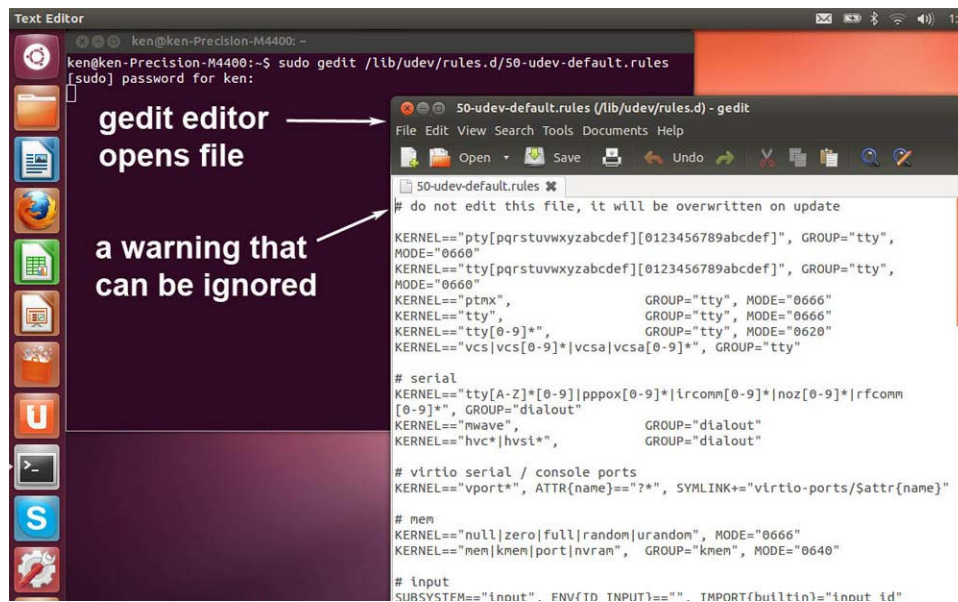

Figure 11 – GEDIT tool window showing the open 50-udev-default.rules system file
- The “gedit” editor window will open the system file as shown in **Figure 11**.